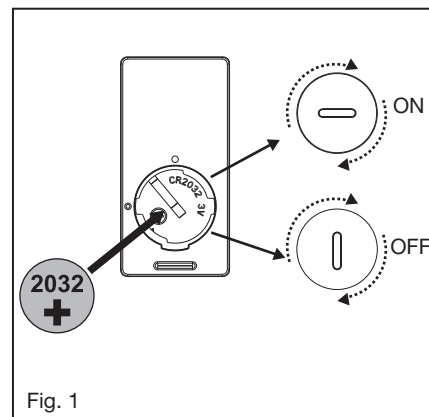

Fig. 1
Carefully lift fan motor assembly (without the blades) into position by hanging the motor assembly onto the hook from the ceiling adapter plate allowing it to hang freely. (Fig. 1)
- 1 Remove the four washers and nuts from mounting bracket, move the motor into position over the four mounting studs and secure with the nuts and washers previously removed. (Fig. 1)
- 1 Select a desired location. Use the wall plate to mark the location of the mounting holes. Plastic wall anchors or mounting screws are needed for this application. (Fig. 1)
Remove the panel from the transmitter and then install one 2032 battery (included). You need to use a coin to open or close the battery cover. To prevent damage to transmitter, remove the battery if not use for long periods of time (Fig. 1)